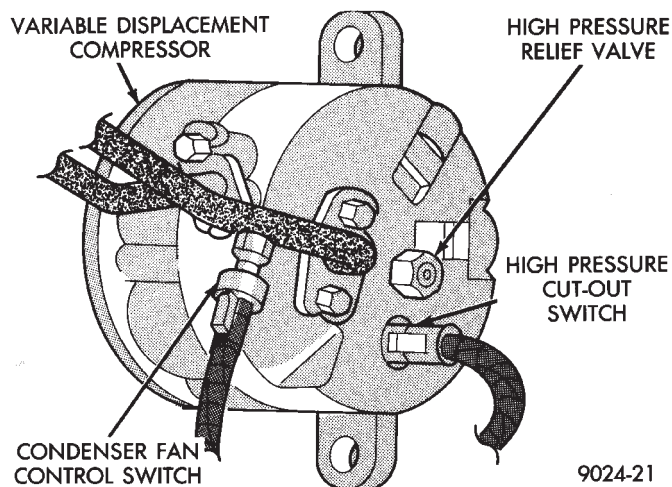

Fig. 6 High Pressure Cut-out Switch
- (1) Discharge the refrigerant system.
- (2) Disconnect wire connector from the high pressure cut-out switch (Fig. 6).